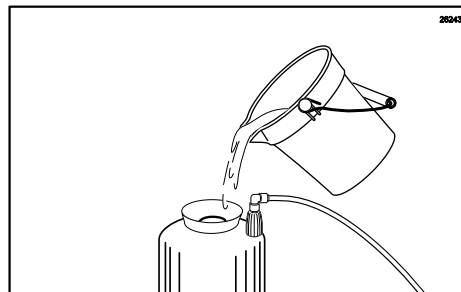

Figure 81
- Fill the Sanitizer Tank with approved sanitizer solution (See Figure 81.)